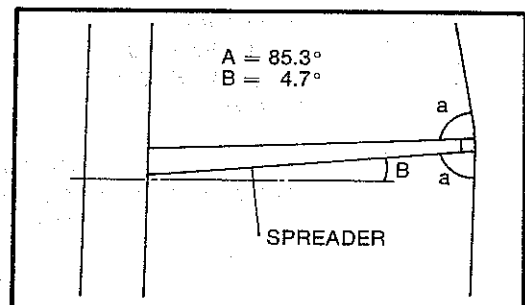

Fig. 9
- NOTE:** 1) A SPREADER SHOULD BE ADJUSTED SO THAT THE ANGLES BETWEEN THE SHROUD AND SPREADER ABOVE AND BELOW ARE EXACTLY EQUAL (see Fig. 9). FAILURE TO DO THIS CAN CAUSE THE SPREADER TO SLIP WHICH SHOULD RESULT IN THE LOSS OF THE MAST.